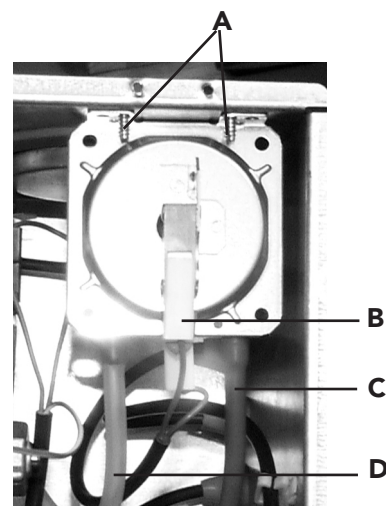

Fig. 31
#### 7.05 Air pressure switch (fig. 31)
- Identify the location of thermostat from fig. 31